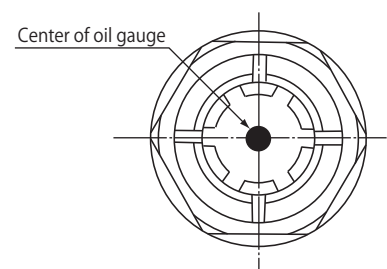

Figure 7-1 Oil Gauge
- In the case of the oil lubricating part, is the oil level at the center of the oil gauge (Fig. 7-1) when the gearmotor or reducer is stopped?